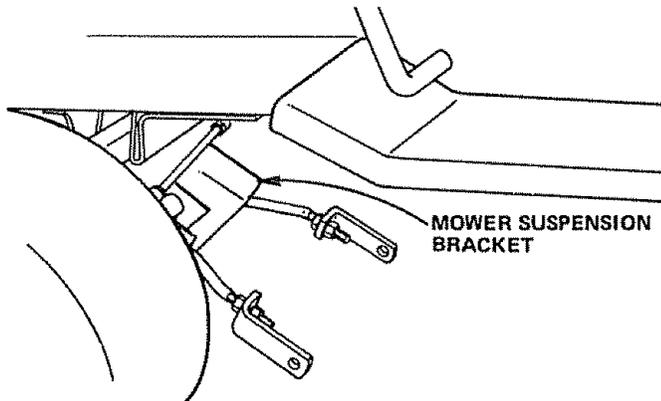

FIGURE 11
4. Remove bands from Mower Suspension Bracket (Fig. 11).
**BEFORE DRIVING THE TRACTOR, INSTALL MOWER OR REMOVE FRONT MOWER SUSPENSION ARM (FIG. 11).**
Your tractor has been shipped with the Mower Suspension Bracket banded to the frame. Remove bands and lower Mower Suspension Bracket (Fig. 11).